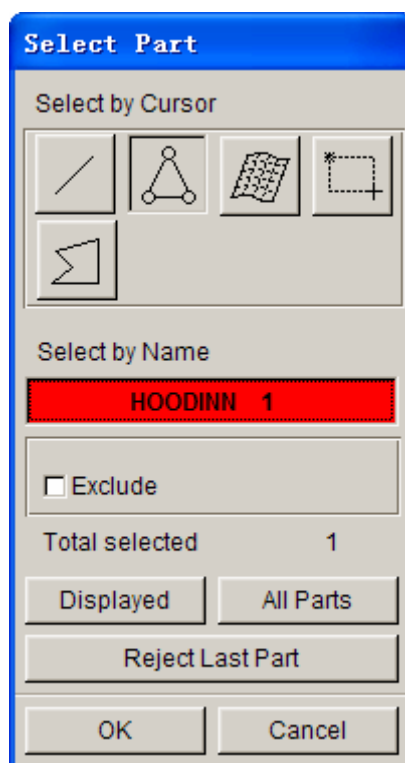

Figure 13 Select Part dialog box
2. Click **Select Part** button to select the part for tipping operation. The Select Part dialog box illustrated in Figure 13 is displayed.